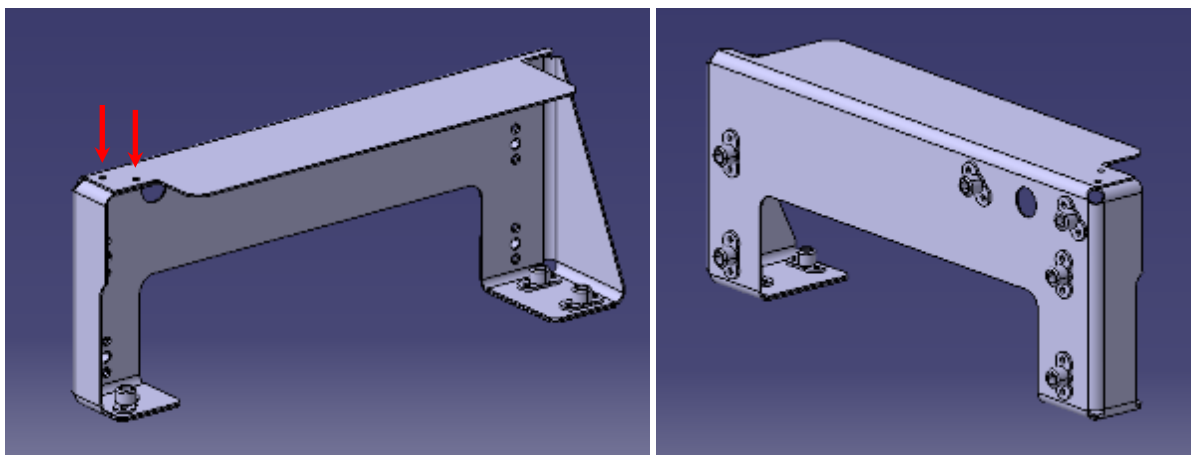
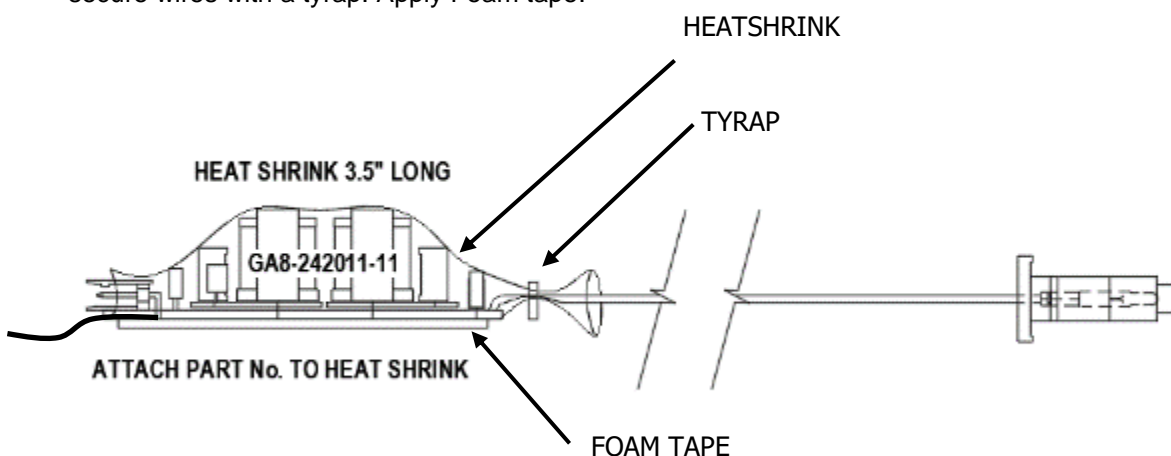
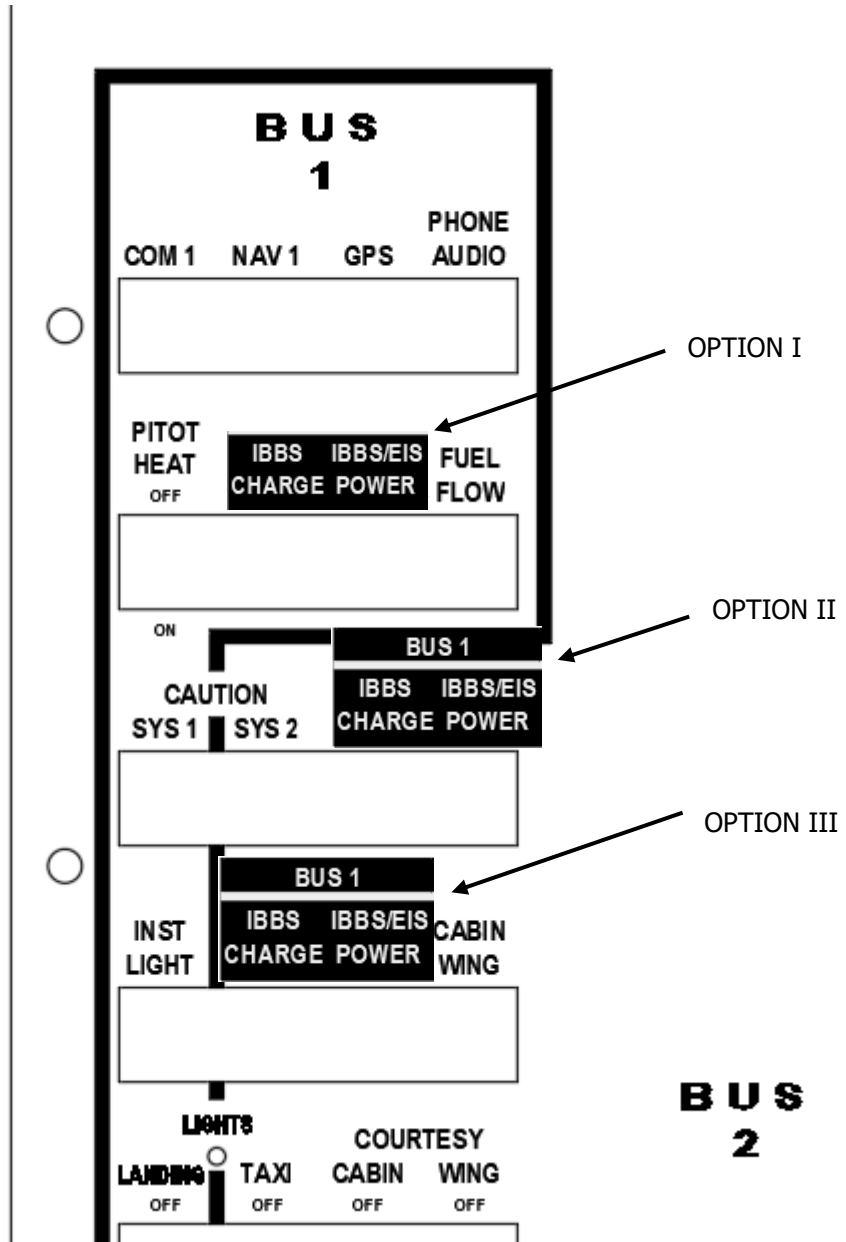

Figure 7 – Bracket Assembly and Nut Plate Installation
Figure 14 EL Inverter Assy.
Figure 15 Circuit Breaker & Decal Location
7. Refer Figure 7 through Figure 14. Items used in this section are listed in Table 7 unless stated otherwise.
9. Rivet the nut plates (Item 63) to the battery bracket (Item 60) using rivets (Item 64) as shown in Figure 7.
10. Install the two corner rivets (Item 65) at the locations indicated in Figure 7, Left.
19. Refer Figure 14, the overhead panel requires the installation of the IBBS CHARGE and IBBS/EIS POWER circuit breakers. Both of these circuit breakers are connected to BUS 1 via bus bars and should be installed on LH side of the panel. As the layout of the overhead panel varies depending on both the basic configuration and modified state of the overhead panel there are several options to effect this change.
- (I) Install the IBBS CHARGE and IBBS/EIS POWER into vacant positions on BUS 1.
- (II) If there are no vacant BUS 1 positions any vacant position on the LH side of the overhead panel may be used. Use bus bars (ITEMS 44-46) as required or 8g wire links to connect the circuit breakers to BUS 1.
21. Refer Figure 15, cut holes to suit the "LOW VOLT" LED and RH EIS switch. Cut a slot for the electroluminescent strip and radius the slot to remove sharp corners that could damage the strip